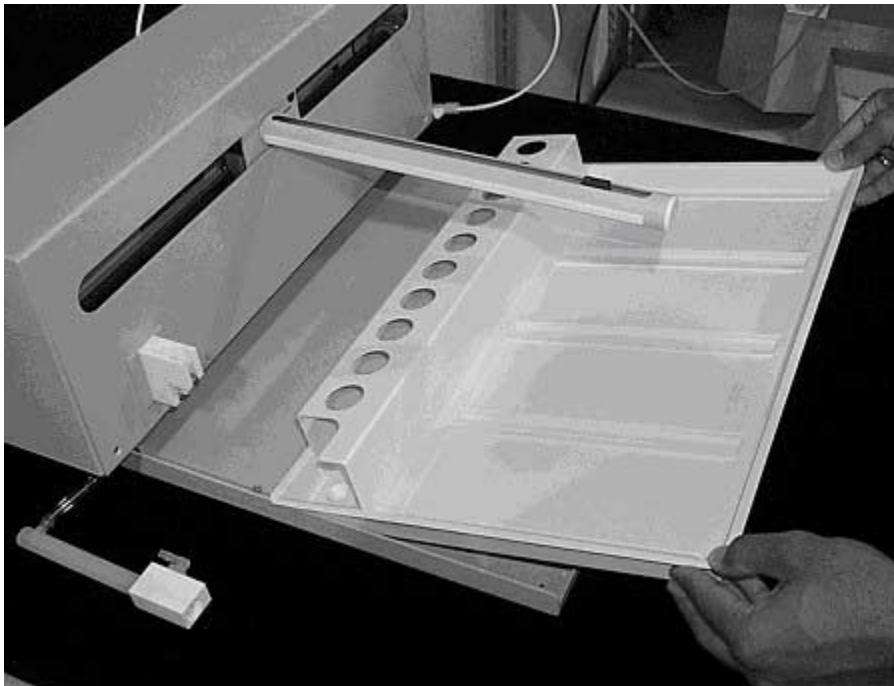

Figure 1-6. Removing the tray.
4. The Auto Sampler tray is next to be removed. Lift up the tray and pull forward. See Figure 1-6